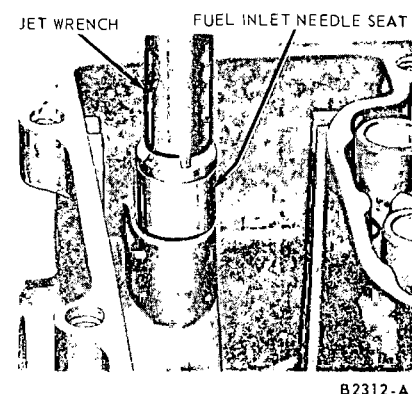

FIG. 14—Fuel Inlet Needle Seat Removal or Installation
2. Remove the fuel inlet needle, seat, filter screen, and the main jets with a jet wrench (Figs. 14 and 15).
12. Install the main jets and the fuel inlet seat, filter screen, and new gasket, using a jet wrench (Figs. 14 and 15). **Be sure the correct jets are installed.**